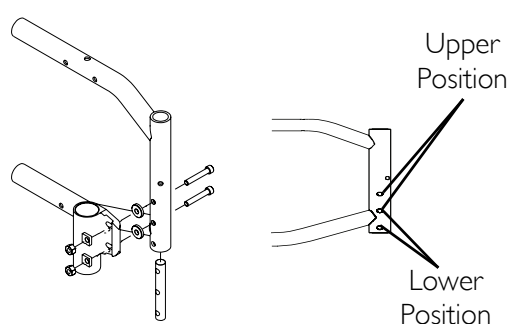

FIGURE 9.4 Adjusting Caster Headtube Mounting
NOTE: For this procedure, refer to Detail "A" or Detail "B" of FIGURE 9.4 on page 98.
NOTE: For this procedure, refer to Detail "C" of FIGURE 9.4.
4. Secure the caster headtube to the wheelchair with the existing hardware. Refer to FIGURE 9.4 correct hardware orientation.